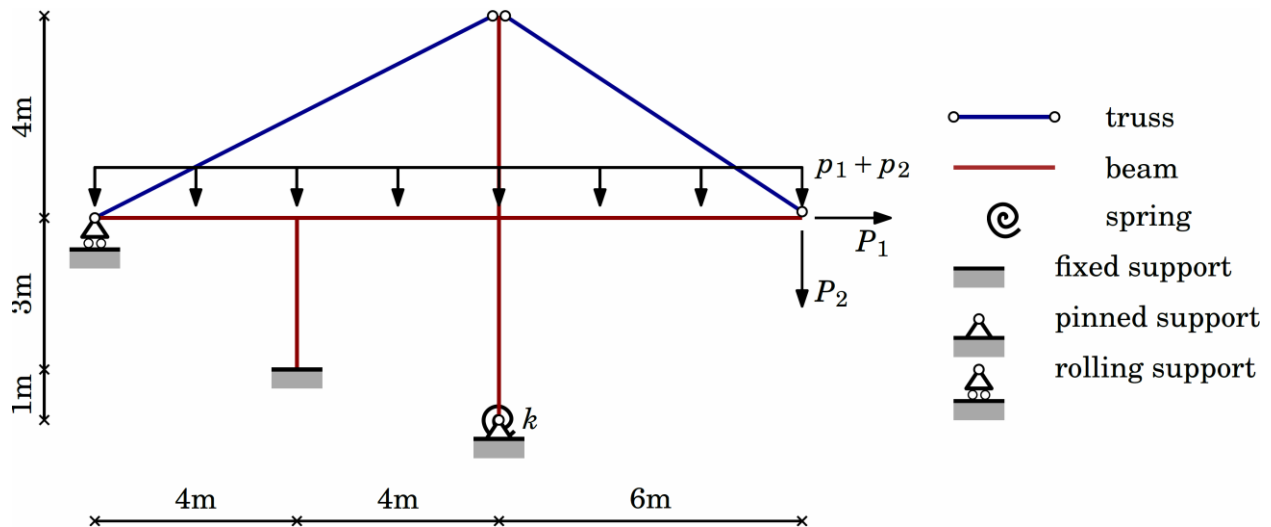

Fig. 1: 2D Frame Structure
Use the MATLAB code and Demo provided on the course website for simulating the 2D structure, illustrated in Fig.1, by assuming the following parameters:
- Prepare the remaining input (such as node coordinates, element properties, loading etc.) to match the structure in Fig. 1.